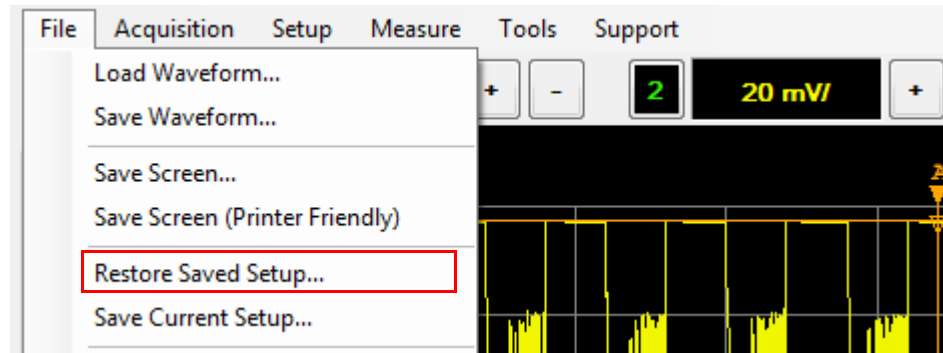

Figure 2-139 Restore Saved Setup... selection in the File menu
- 1 Select **File > Restore Saved Setup...** on the toolbar to load a saved 8990B state from an XML file as shown in Figure 2-139.